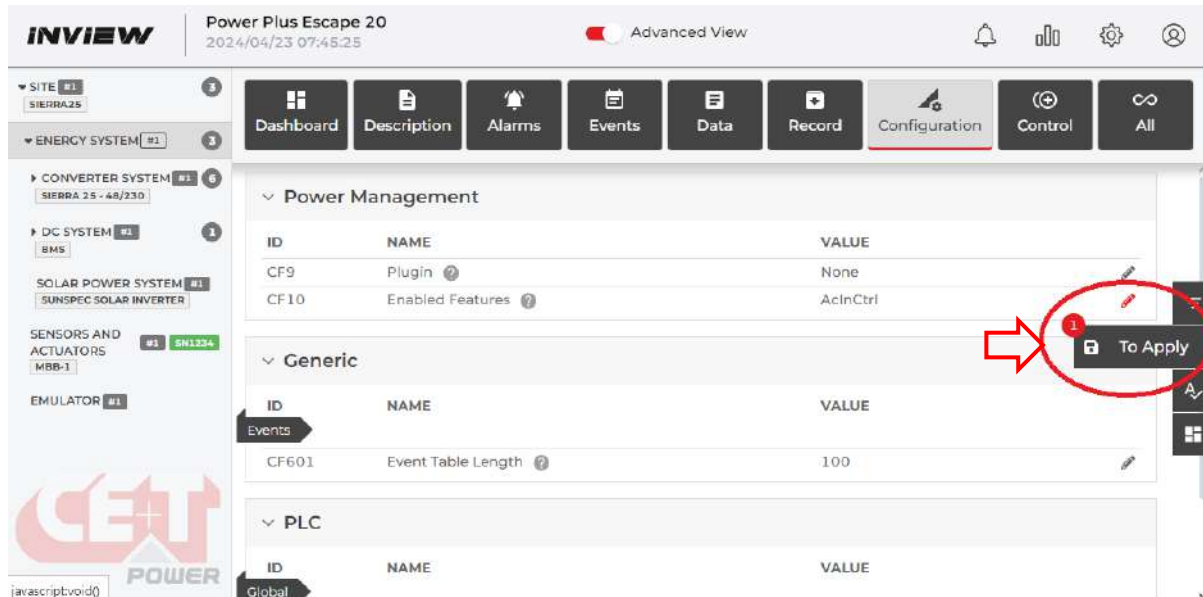

Figure 30- Saving the Changes
- 3- Click on the save Icon To Apply the setting as seen in Figure 30- Saving the Changes.